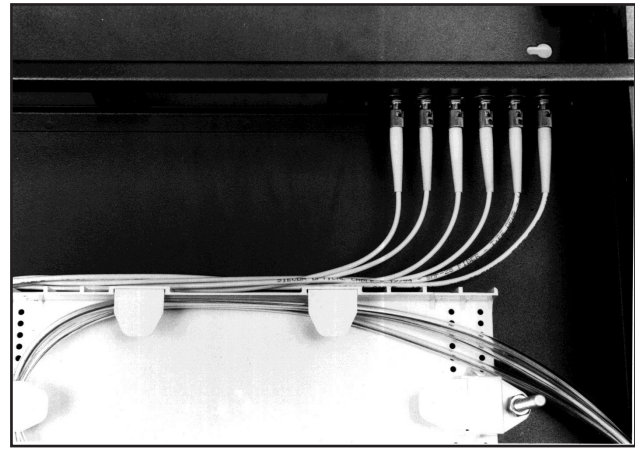

FIGURE 5 - ROUTE THE PIGTAILS
7.04 Route the pigtails along the Transition Assy toward the right side of the cabinet, while maintaining a smooth bending radius behind the Adapter Plates. (Figure 5)